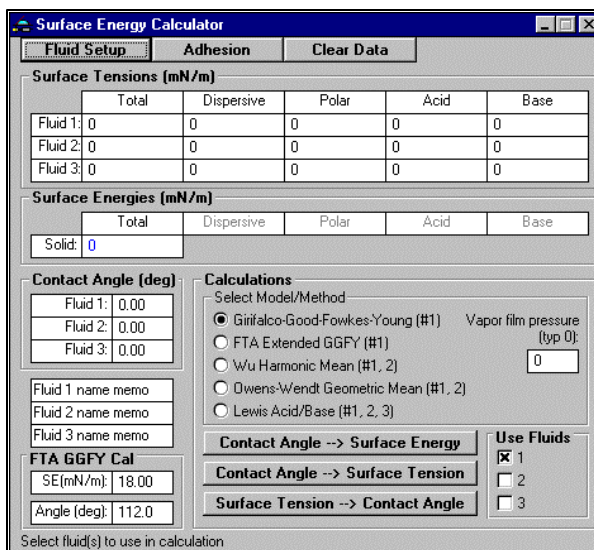

Figure 10. Surface energy calculator.
**Surface Energy Calculation.** Additional things can be computed from contact angle and surface tension data. Some of these require running several experiments and combining the data into a single calculation. Click on Tools/Surface Energy in the main menu, and the form shown in Figure 10 will appear. Contact angle data from different fluids on the same sample surface may be combined in sophisticated analyses such as the Lewis Acid/Base model. Several models are offered to accommodate different types of samples and the level of detail required.